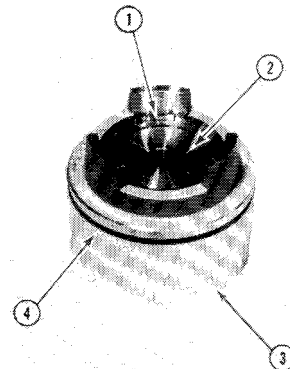

Figure 56
Remove retainer ring (1, Figure 56) and valve seat (2) from piston (3) if replacement of seat is necessary.